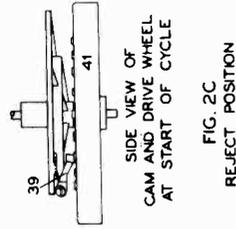
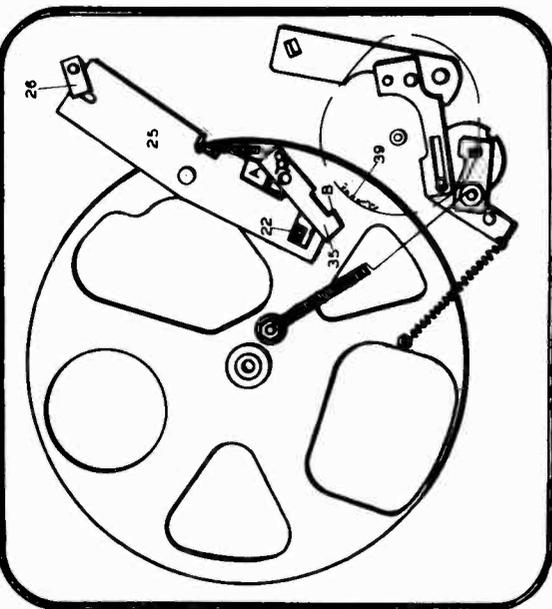
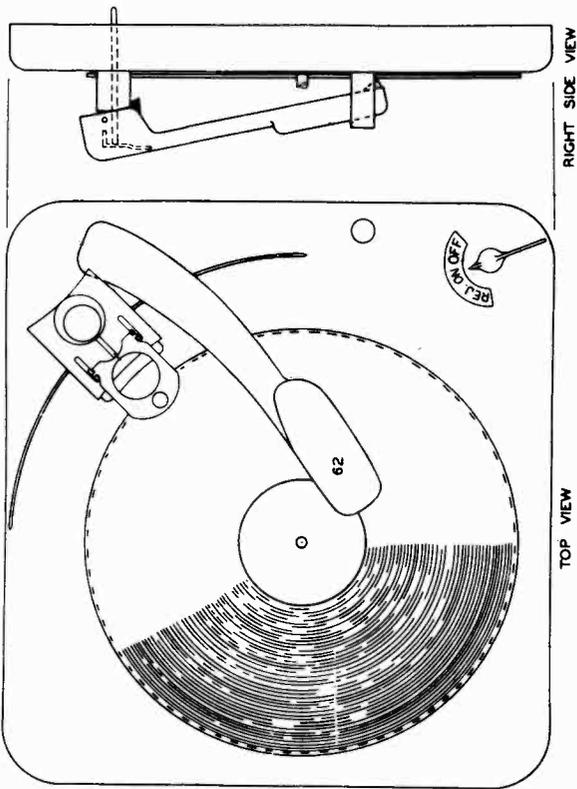
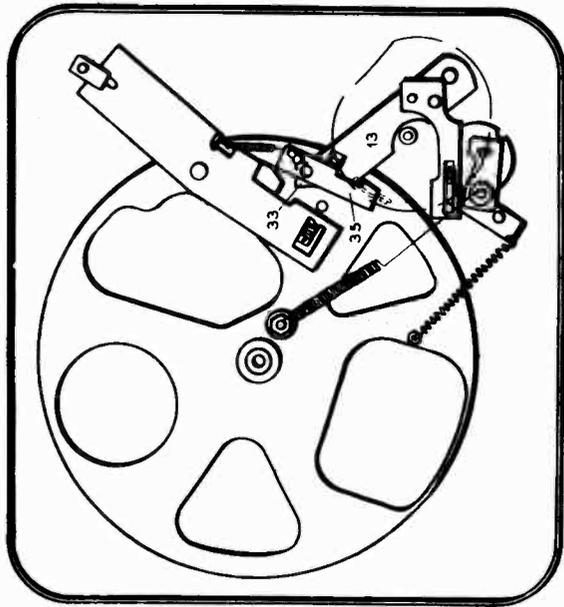

FIG. 2C
FIG. 2
FIG. 5A
FIG. 5
This causes the reject arm actuating lever (26 Fig. 2) to move to the left, causing the reject arm (35 fig. 2) to pivot and push the ON -
OFF switch (22 Fig. 2) to the ON position. And at the same time point A of the reject arm (25 Fig. 2) pushes against the release arm (35 Fig. 2) releases its hold on the cam pawl (39 Fig. 2C) allowing it to drop down and engage the raised portions of the drive wheel (41 Fig. 2C). The drive wheel is driven by the drive belt (42) and drive pulley (46 Fig. A).
Fig. 5 shows how the pickup trip arm (13) has followed the pickup arm (62 Fig. 5A) as it moved across the record. The pickup arm is at the end of the record and the serrated end of the pickup trip arm has moved against the release arm tension bracket (33 Fig. 5). (Also see 33 on exploded view). The backward and forward movement caused by the grooves at the end of the record forces the release arm tension bracket (33 Fig. 5) to pivot, and the pivot point applies pressure to the release arm (35 Fig. 5) forcing it away from the cam pawl (39 Fig. 2C) allowing the cam pawl to drop and engage the main drive wheel (41 Fig. 2C), thereby starting another change cycle.